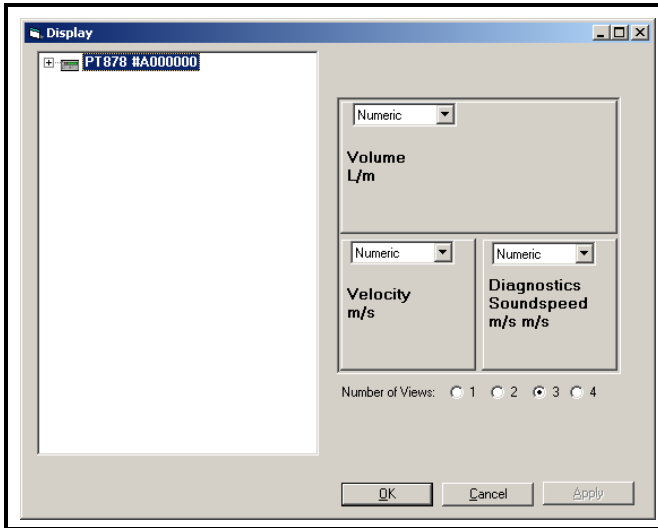

Figure 36: The Meter Display Window for a PT878
3. From the expanded tree, double-click on the “*Display*” option. The “views” (windows) on the right show the data sources (velocity, volumetric, diagnostics, etc.) and display units that the PT878 is currently displaying. Figure 36 on the next page shows a typical “*Display*” option window for a PT878. Each individual view shows the mode and unit measured in the corresponding view on the PT878 display.